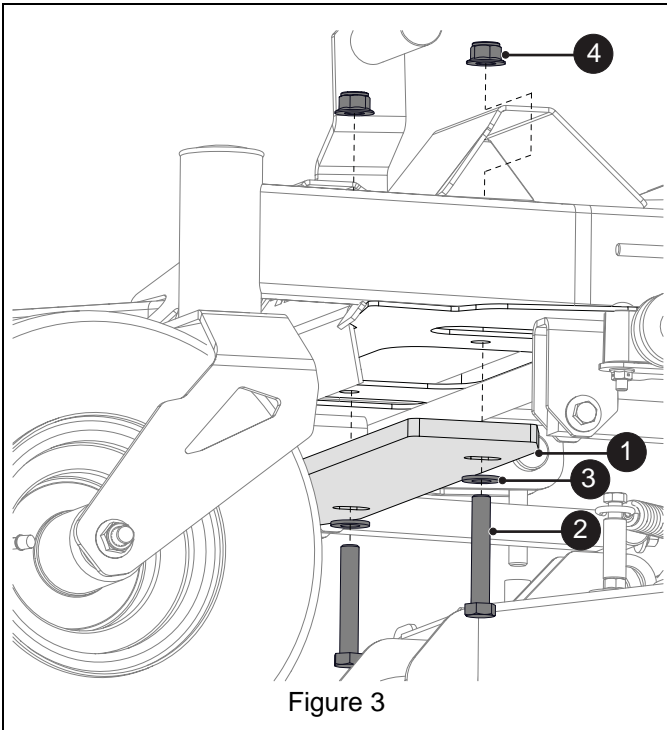

Figure 3
4. Position one counterweight plate under the frame crossmember. Plate is positioned with angled corners facing rearward. Secure weight plates with two 1/2 x 4" hex bolts (item 2), two flat steel washers (item 3) and two 1/2" nylon locking flange nuts (item 4). See Figure 3.